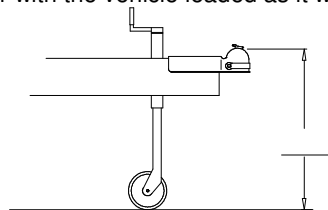

Fig. 1
2. Level the trailer and measure and record the distance from the ground to the top of the coupler. (Fig.1).